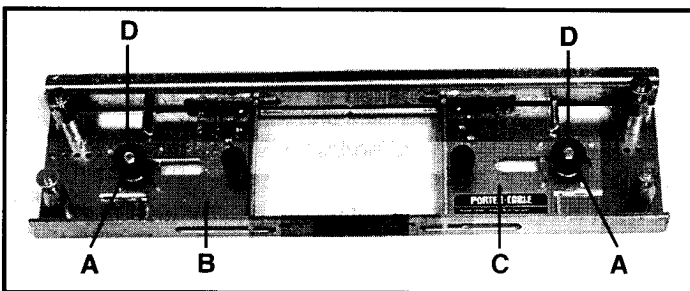

Fig. 1
1. **See Fig. 1.** Loosen thumb nuts (A) and adjust hinge size plates (B) and (C) so the indicator (D) aligns with the  $3\frac{1}{2}$ " graduation line on the templet body. Adjust all templet sections in the same manner. Be sure projection on bottom of hinge size plate engages hole in templet body. Tighten thumb nuts (A) securely.